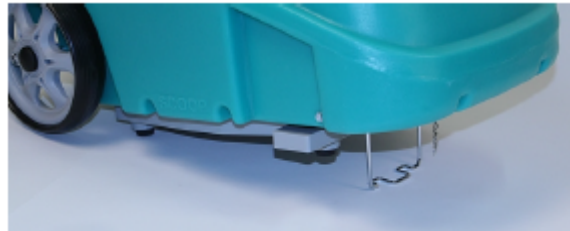

Fig. 8 Metal foot (for lobs)
- You can use the Metal Foot (Fig. 8) to add inclination for lob.